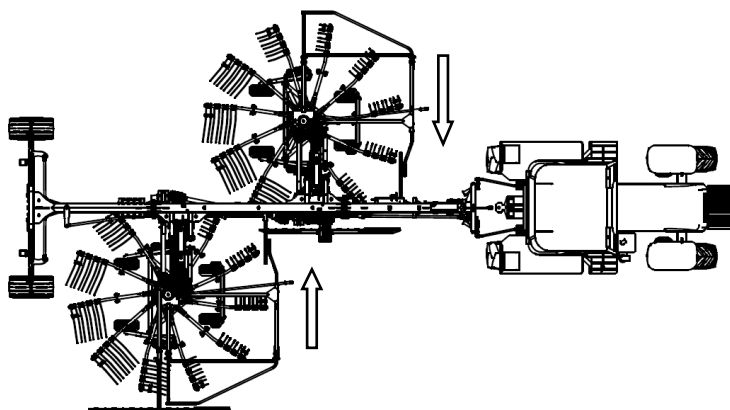

Fig. 31. Rake set for forming one row
- get both of working assemblies as near to each other as possible (Fig. 31).